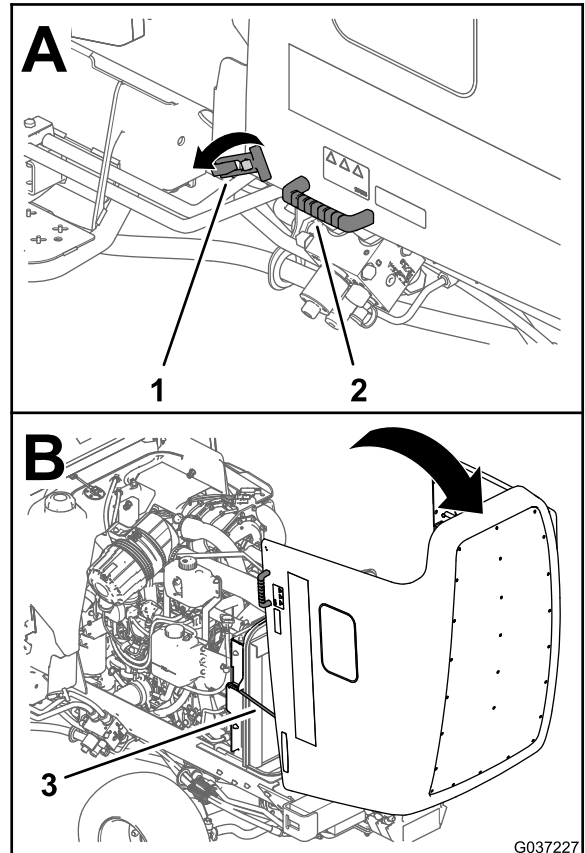

Figure 73
2. Release the 2 latches at the forward lower corners of the hood (Figure 73).
3. Using the handles that are adjacent to the latches, lift up and back the hood until the 2 prop rods are seated in the 2 rod brackets (Figure 73).